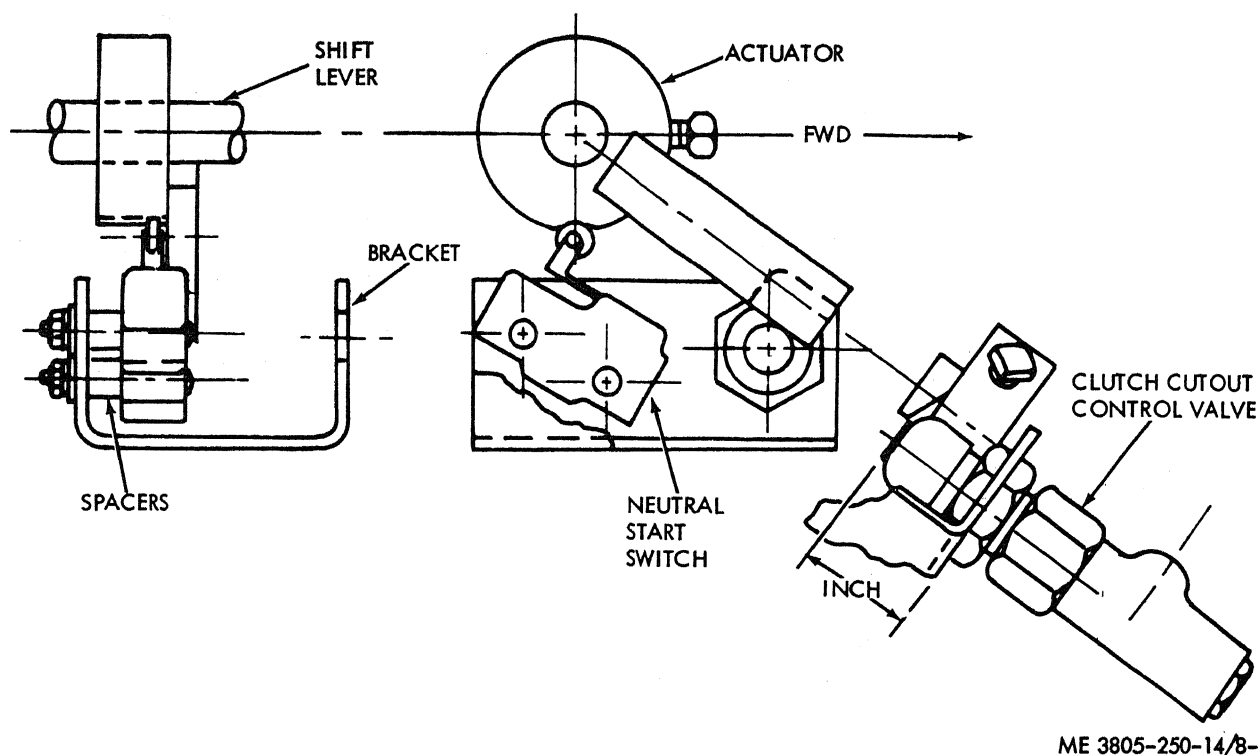

Figure 8-35. Clutch cutout adjustment.
(1) Place the shift lever in neutral position.
(2) Locate the actuator on the shift lever shaft until the ramp on the actuator arm is aligned to the valve poppet and will engage the ramp without interference. Refer to figure 8-35. Tighten setscrew.